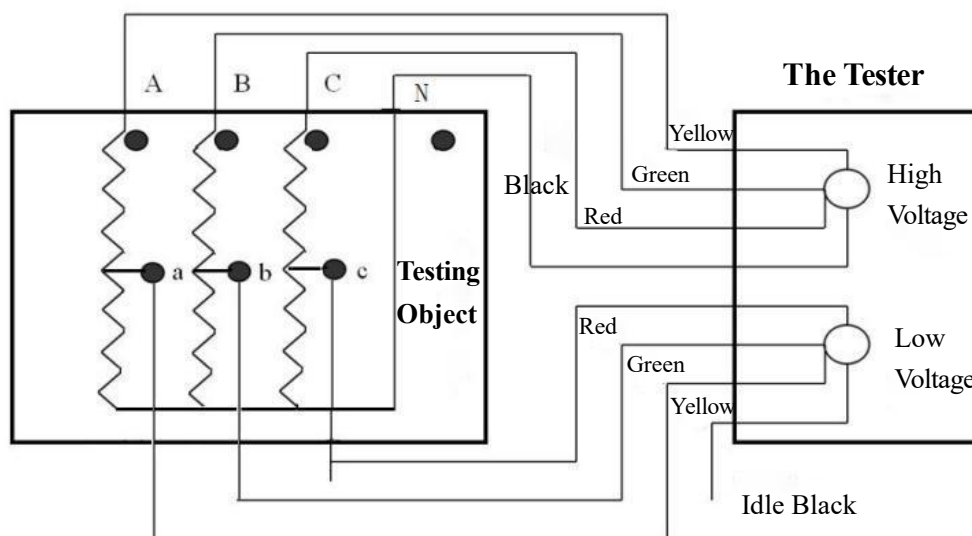

Figure 16
7、Autotransformer, wired according to Figure 16.